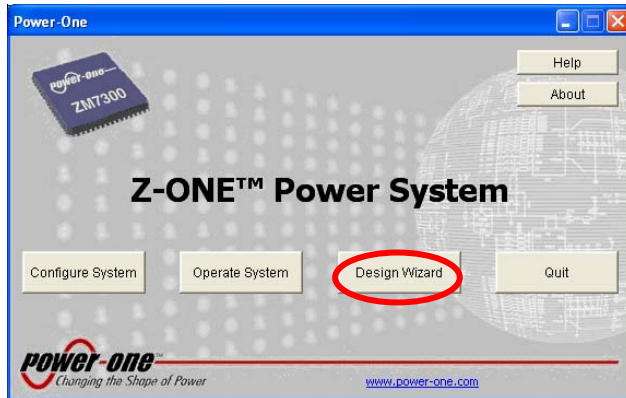

Figure 5. Design Wizard in the Graphical User Interface (GUI)
- The GUI's Design Wizard will automatically calculate values of phase shifts for each POL converter. See Figure 5.